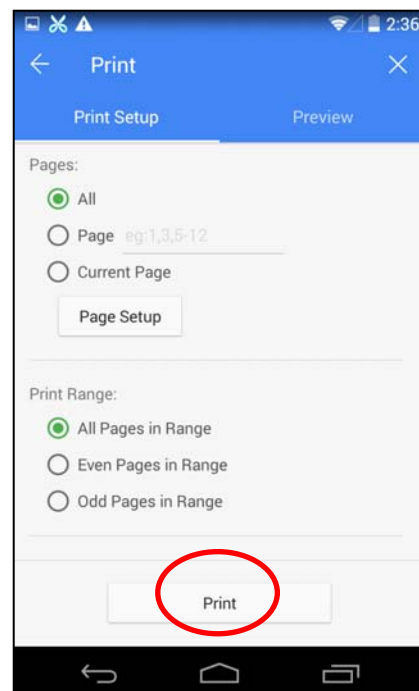

Figure 28
4.4 When the “Print” interface pops up, click “Print”, as shown in Figure 28.